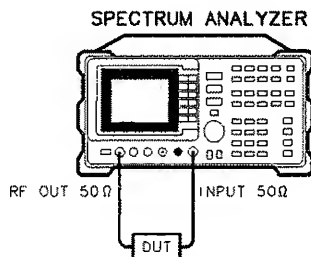

Figure 4-4. Transmission Measurement Test Setup
2. To measure the rejection of a low-pass filter, connect the equipment as shown in Figure 4-4. This example uses a filter with a cut-off frequency of 300 MHz as the DUT.